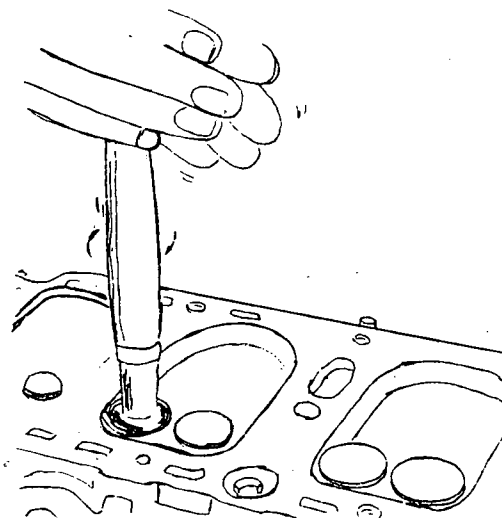

Fig. 4
- a) Apply emery paste on the face of the valve and insert it in its guide. Turn the valve against the seating (fig. 4) without hitting it.